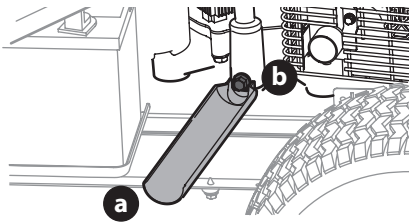
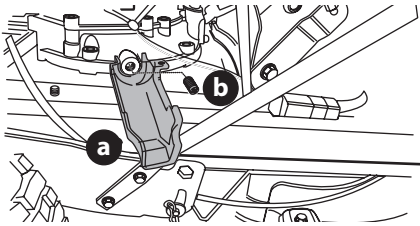

Figure 25
Figure 26
5. Snap the small end of oil drain sleeve (a) onto the space provided around the oil drain plug (b). See Figure 25 or Figure 26 for the two possible oil drain sleeves and refer to the applicable image for your riding mower.